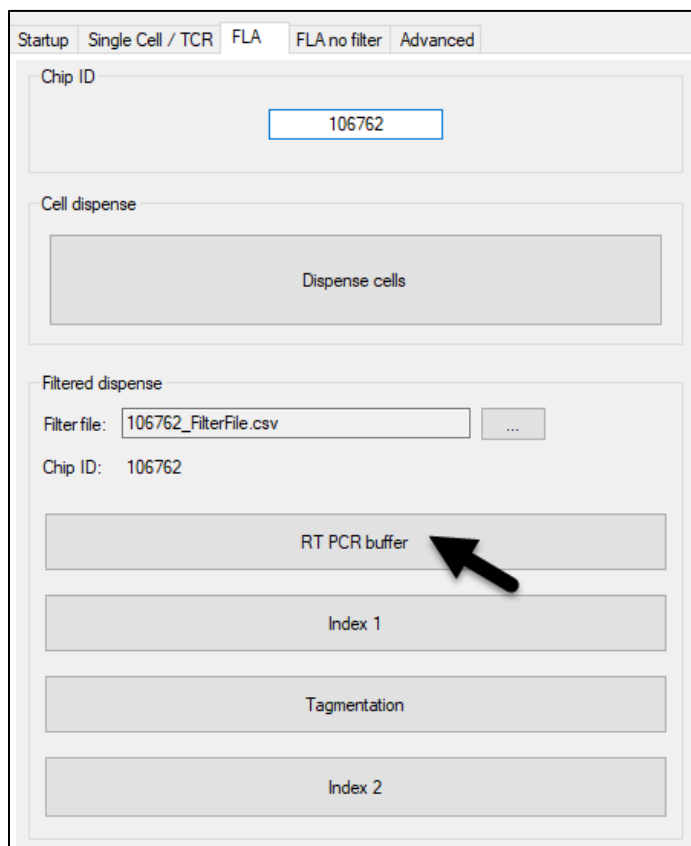

Figure 37. Load the PredispensedFilter.csv file into the ICELL8 MSND software and choose [RT PCR buffer].
- Under the *FLA* tab, click the browse button next to the Filter file field to load the <Chip Number>.CSV filter file (Figure 37).